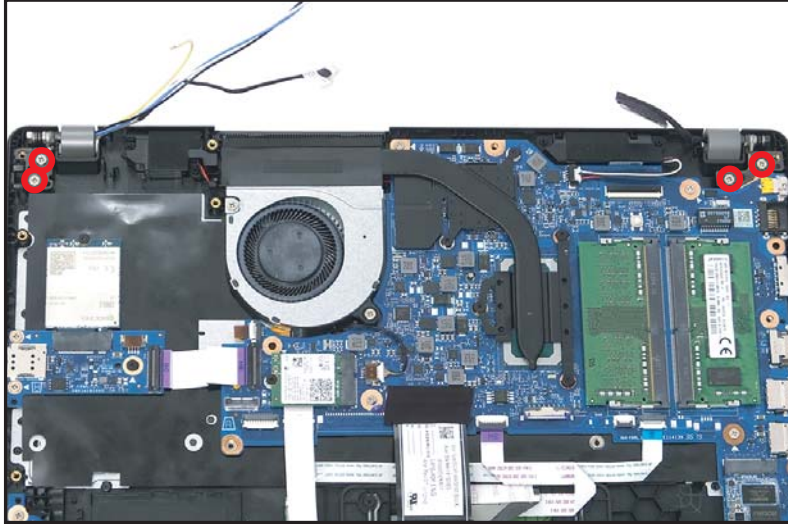

Figure 1-38. LCD Module Removal
9. Remove four (4) screws securing the LCD module in place (Figure 1-38).